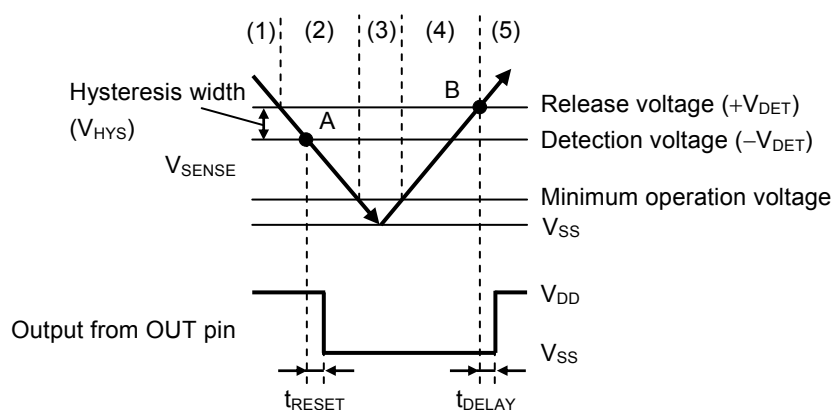

Figure 28 Timing Chart of S-1011 Series E / N Type
The hysteresis width is the voltage difference between the detection voltage and the release voltage (the voltage at point B – the voltage at point A = V_{HYS} in **Figure 24** and **Figure 28**). Setting the hysteresis width between the detection voltage and the release voltage, prevents malfunction caused by noise on the input voltage.
When V_{SENSE} decreases to $-V_{DET}$ or lower (point A in **Figure 28**), the Nch transistor is turned on. And then V_{SS} ("L") is output from the OUT pin after the elapse of the detection delay time (t_{RESET}).
- (3) Even if V_{SENSE} further decreases to the IC's minimum operation voltage or lower, the output from the OUT pin is stable when V_{DD} is minimum operation voltage or higher.
- (4) Even if V_{SENSE} exceeds $-V_{DET}$, V_{SS} is output when V_{SENSE} is lower than $+V_{DET}$.
- (5) When V_{SENSE} increases to $+V_{DET}$ or higher (point B in **Figure 28**), the Nch transistor is turned off. And then V_{DD} is output from the OUT pin after the elapse of the release delay time (t_{DELAY}) when the output is pulled up.